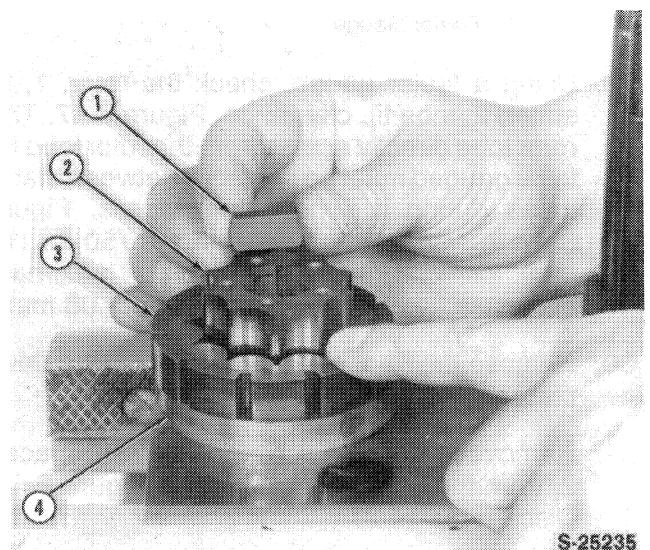

FIGURE 6-46
28. Remove the drive link spacer, 1, Figure 6-46. With the rotor set, 2, and 3, lying on the drive plate, 4, the rotor should rotate and orbit freely within the stator, 3, Figure 6-46. The rotor and stator are a matched set.